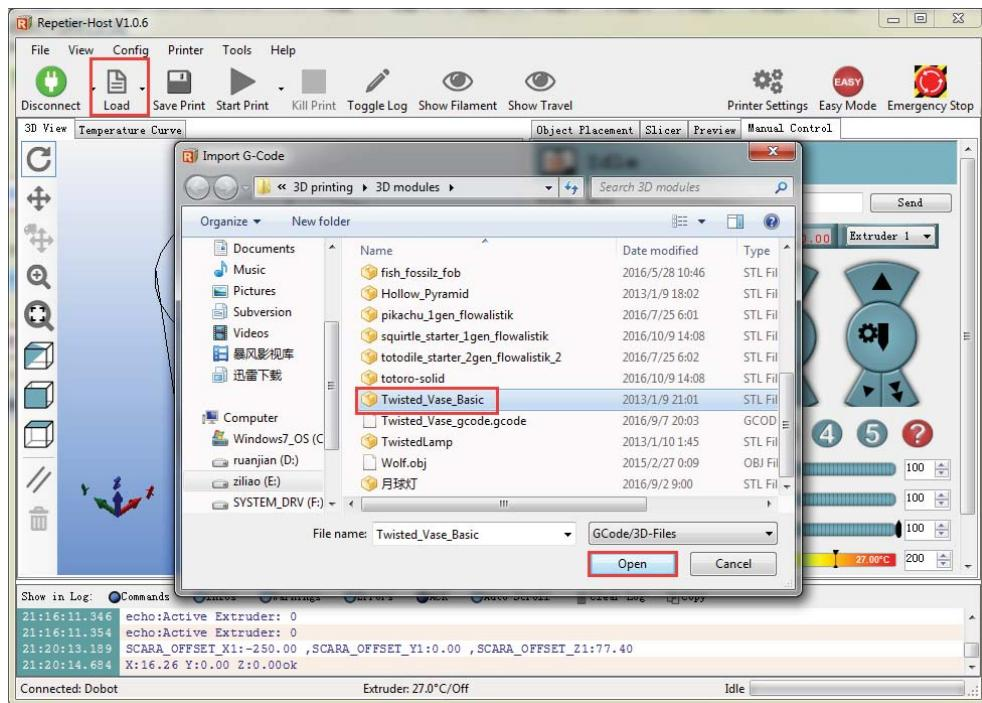

Figure 5.136 Import 3D printing Model
**Step 5** Click **Load** to import the prepared 3D printing model, as shown in Figure 5.136.